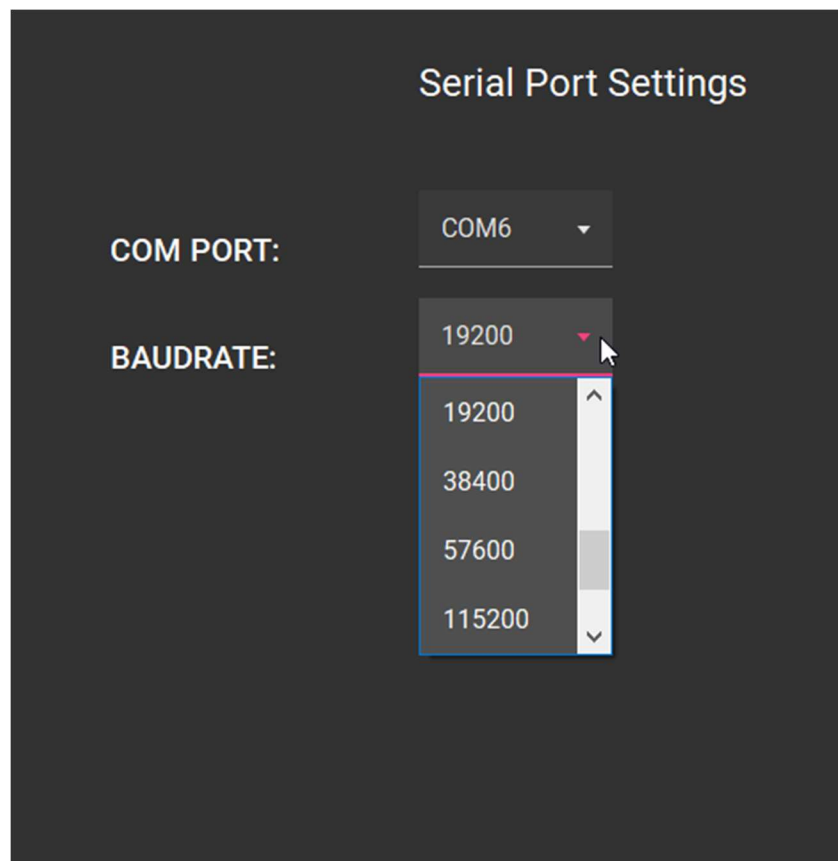

Figure 1
- In the application settings. (Figure 1)